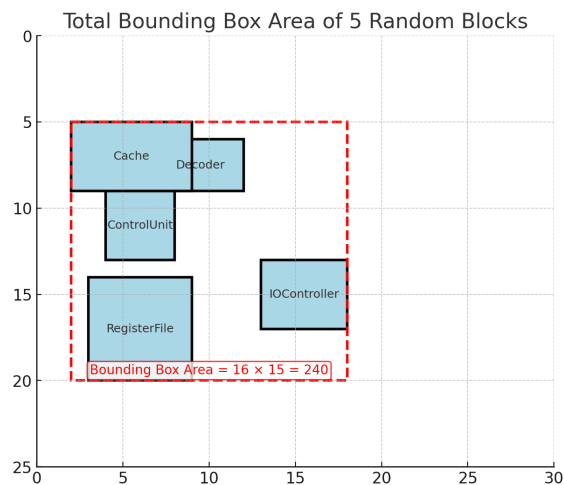

Figure 2
2. **Minimizing the total bounding area:** Figure 2 above hints at how the total bounding area can be calculated for a random placement of 5 component blocks. The red dashed rectangle is the bounding box- aka the smallest rectangle that contains all of the blocks inside. Given the bottom left coordinates (x,y) for all block components, you can easily find out the minimum and maximum of all x and y values, which will help you to calculate the area of such a bounding box $[(x_{\text{max}} - x_{\text{min}}) * (y_{\text{max}} - y_{\text{min}})]$. The **smaller** the bounding box area is, the **better** the layout is.
3. **Minimizing total component overlaps:** In Figure 2, there exists an overlap between the two components (cache and decoder). A single block can, in fact, be overlapped with multiple other blocks in a random placement. **Overlaps are not desirable.** Hence, a